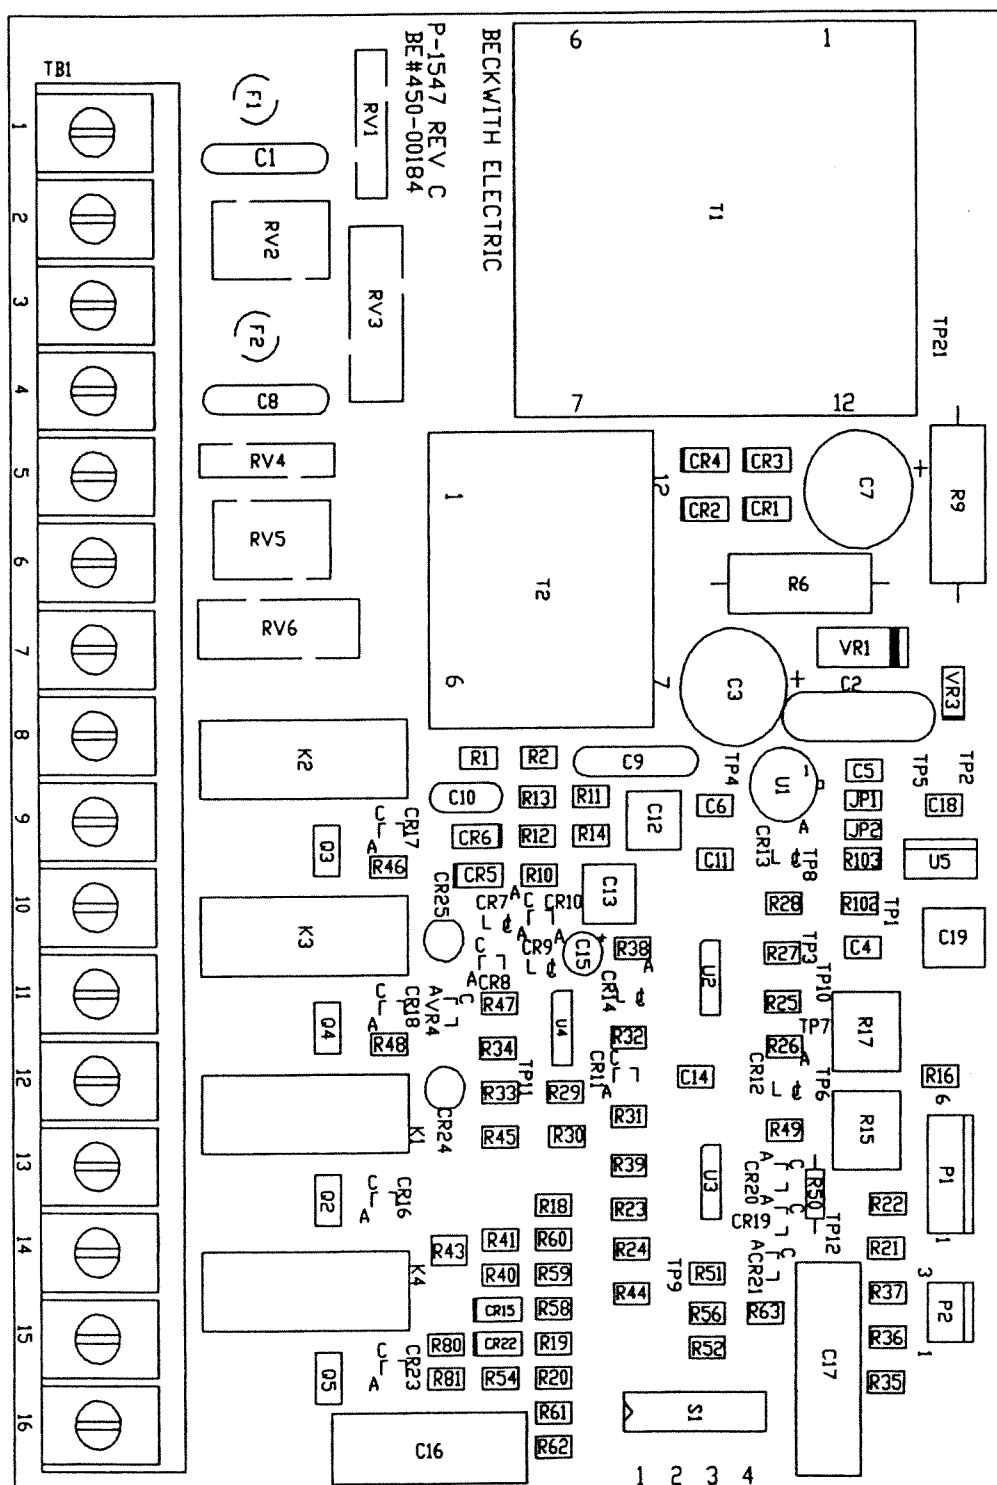

Figure 11 Component Location
- 3. Readings are made with the reference at Test Point 3 (TP3), as shown in Figure 11 Component Location.